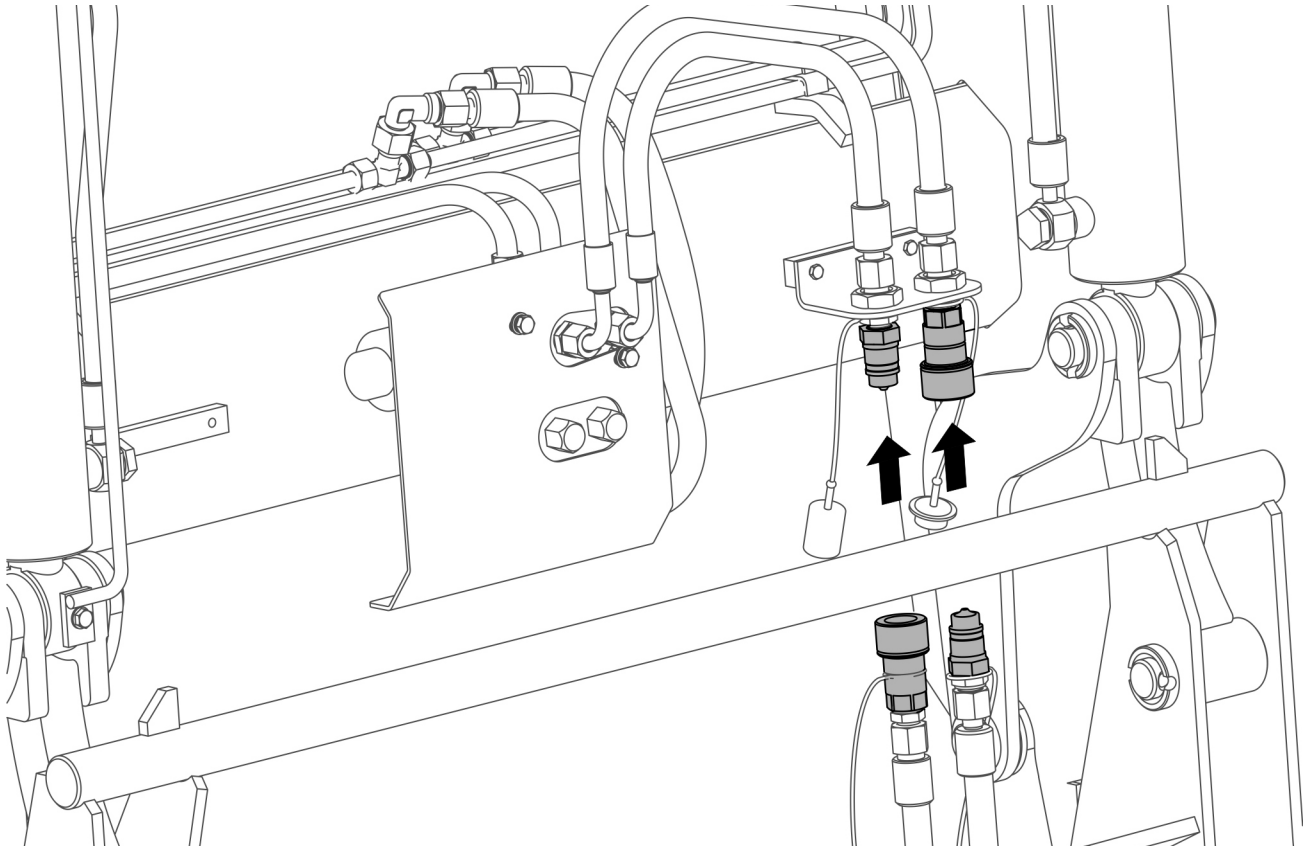

FIGURE 4.21. Connecting of the hydraulic system of the implement
- connect the accessories (FIGURE 4.21) to the loader hydraulic system with the quick couplers;